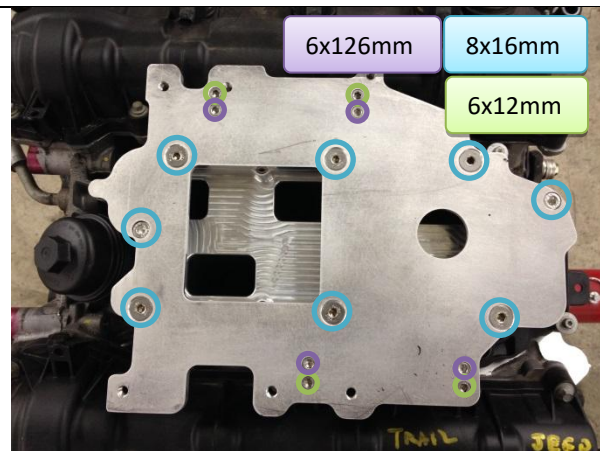

Figure 45: Intake plate with bolt sizes and locations marked.
- 31.1. Sizes and locations shown in Figure 45